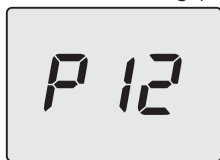

Fig. 8.21
- Press the 14 key for 1 second (Fig. 8.17) to enter the selected parameter. The display will show the following (Fig. 8.21).